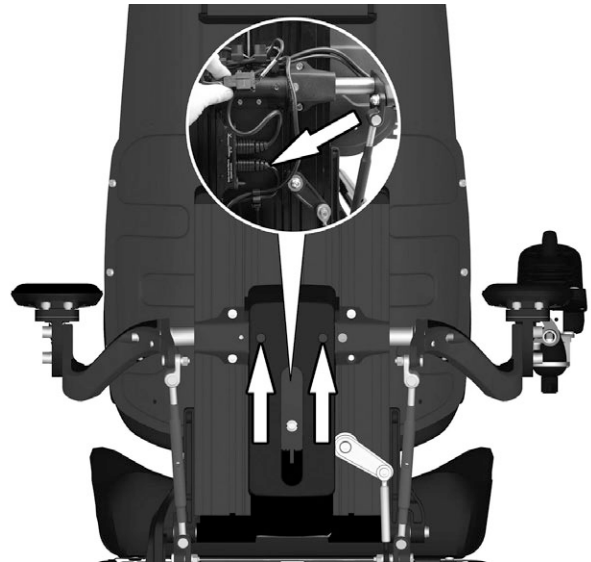

Figure 101. The contact block is located under the cover witch is attached with two screws.
9. Connect the Rnet cable to the contact block at the back of the back rest. See fig. 101. Assemble the cable to its cable brackets. See *Rnet and ICS bus cable mounting*, Page 83 .